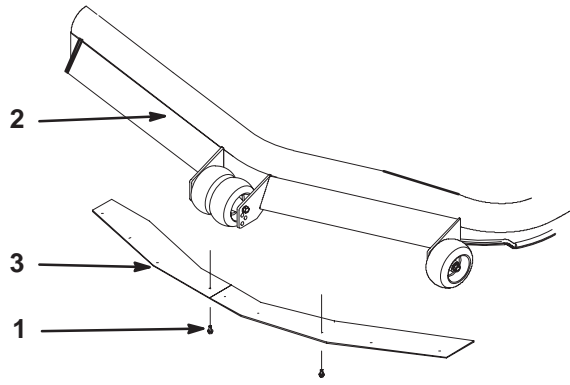

Figure 11
1. To install or remove blowout baffles, install or remove bolts as shown in Figure 11.